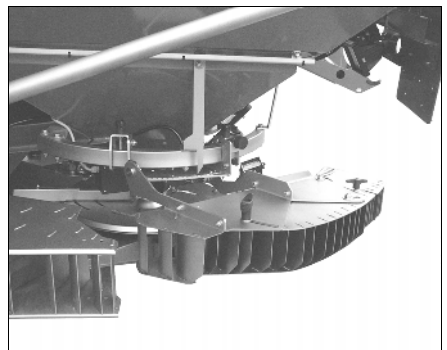

Fig. 45
- For operation hydraulically fold down the border spread deflector into operational position (Fig. 45).